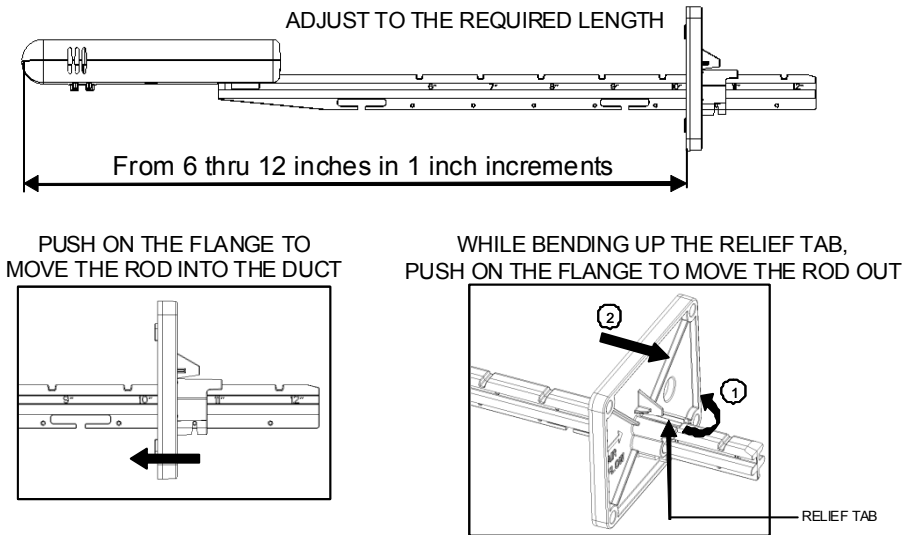
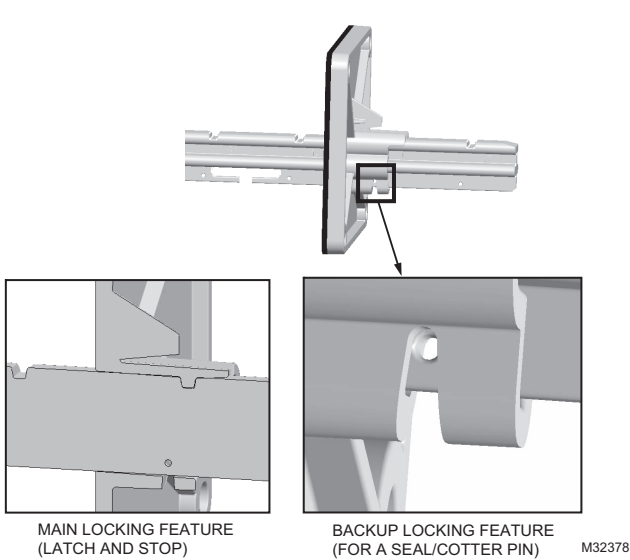

Fig. 5. Rod length adjustment.
Fig. 6. Locking features.
The sensor length on the rod can be adjusted from 6 to 12 inches in increments of one inch. The flange has a relief tab for ease of adjusting the rod on the flange as shown in Fig. 5 on page 3. The rod and flange have two locking features (shown in Fig. 6 on page 4), to hold the sensor (which attaches to the end of the rod) in the airflow at the desired position:
7. Using the release tab, adjust the rod length to allow for optimum positioning in the air stream as described in Fig. 5 on page 3.
8. Determine the locking feature that you wish to use. See Fig. 6 on page 4.
10. In addition to the detent locking feature, there is a hole at each detent position that can be used to secure the position of the rod with a seal or cotter pin (not supplied). See Fig. 6 on page 4.